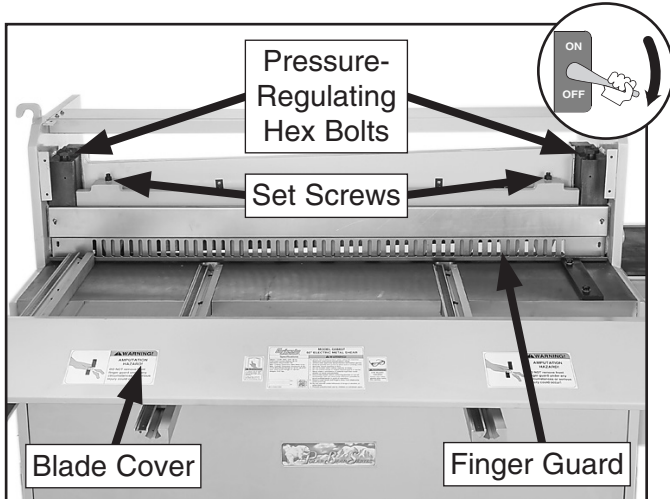

Figure 68. Hold-down clamp adjustments.
3. Remove blade cover (see **Figure 68**).
3. To adjust hold-down clamp pressure, loosen hex bolts to reduce pressure; tighten hex bolts to increase pressure (see **Figure 68**). Perform test cut and re-adjust bolts if needed.